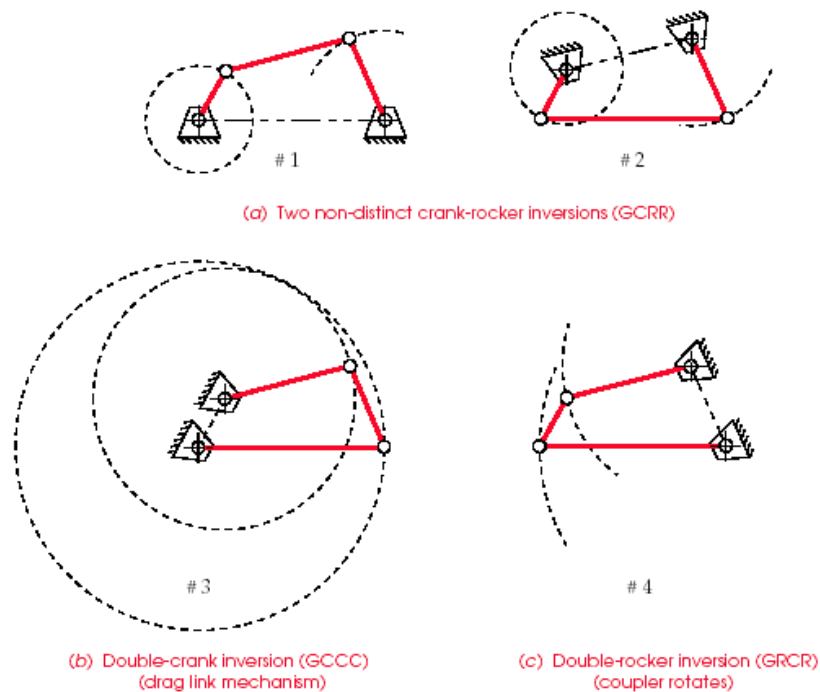

Figure 1: All inversions of the Grashof fourbar linkage
1. Grashof four-bar linkage (See Figure 1) (**do all four inversions**)